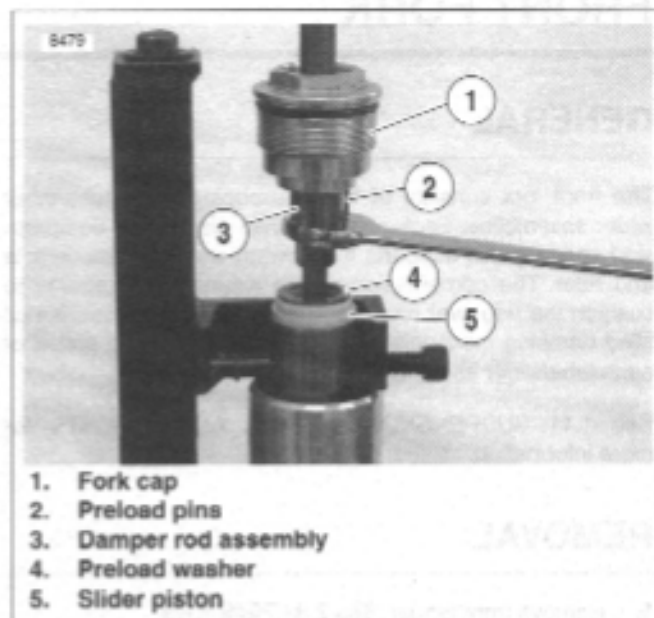

Figure 2-61. Holding Damper Rod Assembly
7. See Figure 2-61. Hold damper rod assembly (3) and remove fork cap (1).
See Figure 2-61. Careful not to damage preload pins (2) while holding damper rod assembly (3).
20. See Figure 2-61. Install preload washer (4) and slider piston (5).
21. Hold damper rod assembly (3) and install fork cap (1) from damper rod assembly (3) tightening to 22-30 ft-lbs (30-40 Nm).
22. Apply fork oil or light grease to o-rings on preload adjuster and install preload adjuster (3).
23. Install snap ring (2).